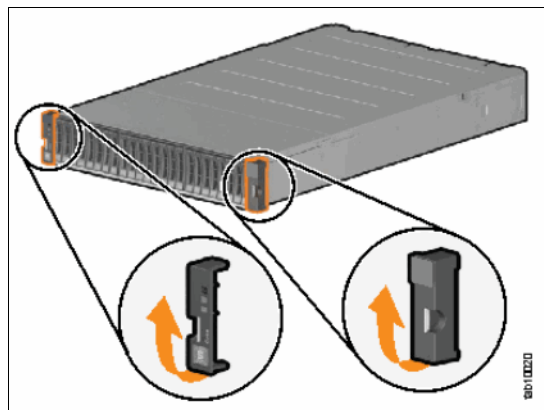

Figure 6-34 Removing expansion enclosure end caps
1. Remove the left and right end caps from the expansion enclosure by grasping the handle and pulling the bottom of the end cap free, then clearing the tab on the top of the enclosure. See Figure 6-34.